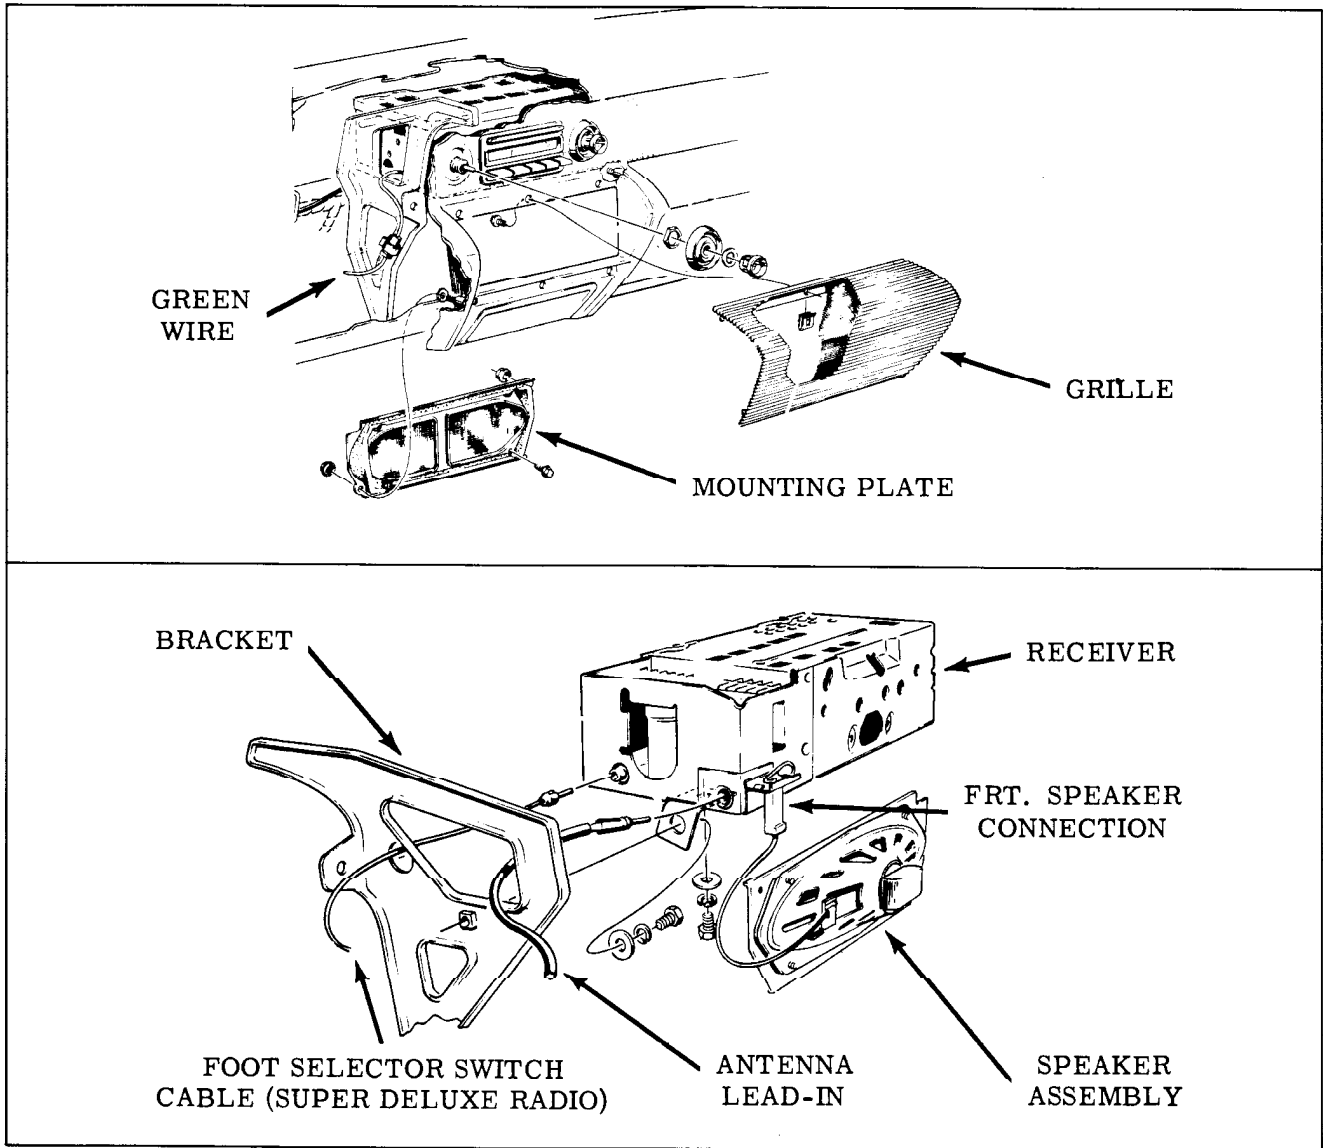

Fig. 15-11 Radio and Speaker Removal
1. Disconnect radio lead (green) from wiring harness. (Fig. 15-11)
To remove the front speaker, disconnect the speaker lead and remove the speaker to instrument panel nuts. (Fig. 15-11)